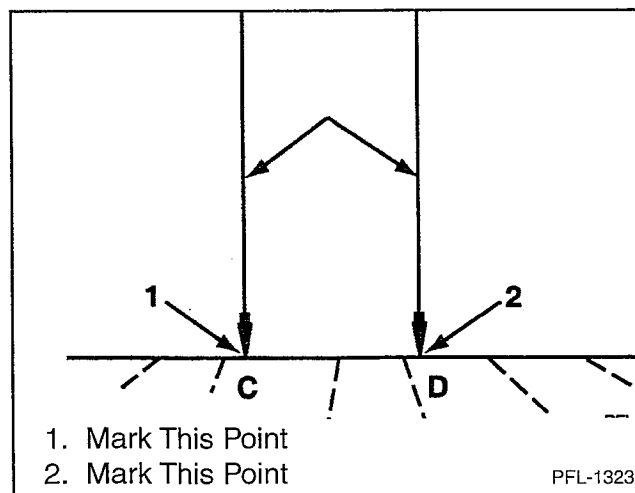

Figure 4
5. Drop a plumb bob and mark points C and D. See Figures 4, 5, and 6